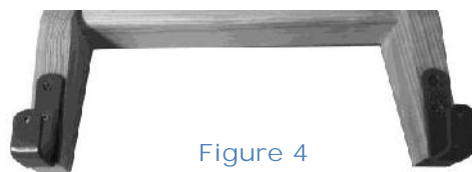

Figure 4
5. Secure brackets on ladder (L) as shown in "Figure 4". Place ladder on either side of bunk bed assembly. Secure ladder to bed rail using 2 round head wood screws (M) through brackets. For twin/full bunk bed only use long round head screw (N) to secure ladder to lower bunk bed end.